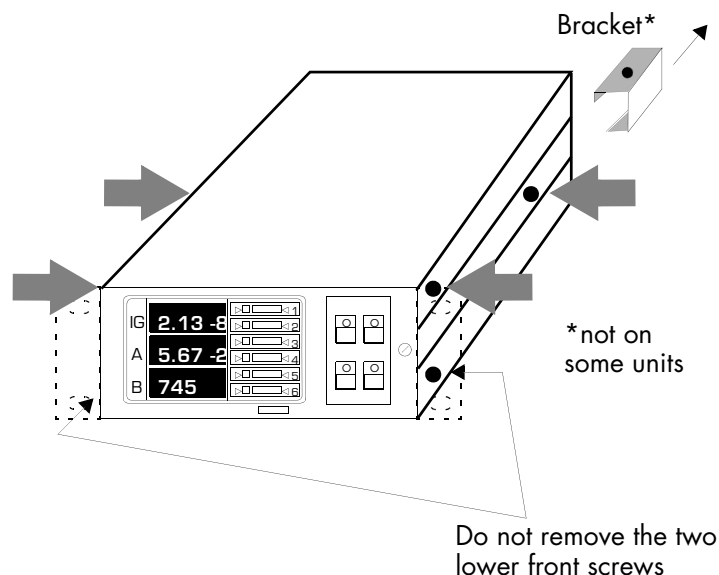

Figure 2-2 Location of Screws for Removal of Top Cover
2. Observe antistatic precautions to avoid damaging static sensitive components inside the chassis. Use a grounded, conductive work surface. Do not handle integrated circuits (IC) devices more than necessary, and only when wearing a high impedance ground strap. (A high impedance helps protect human life in case of inadvertent contact with high voltage.)
3. Remove the four Phillips head screws identified in Figure 2-2. If the unit is equipped with a rear bracket instead of one rear screw, unfasten the Phillips head screw on the bracket, and slide off the bracket